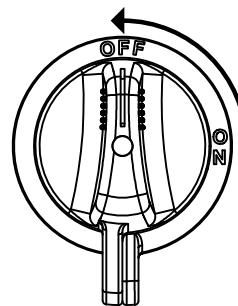

Figure 52. Battery Switch (OFF)
5. Place the **Battery switch** (Figure 52) in the **OFF** position.